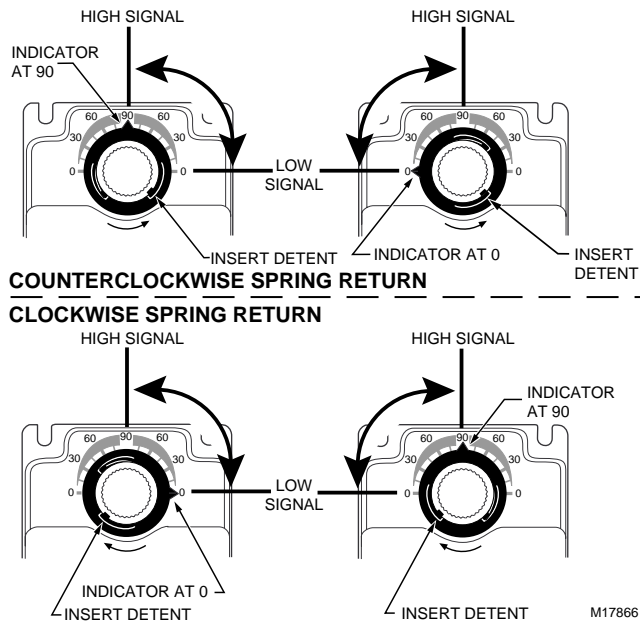

Fig. 5. Indicator positions with no power to actuator.
3. Index the indicator to show cw or ccw open or closed, using the detents that are 90° apart (see Fig. 5):